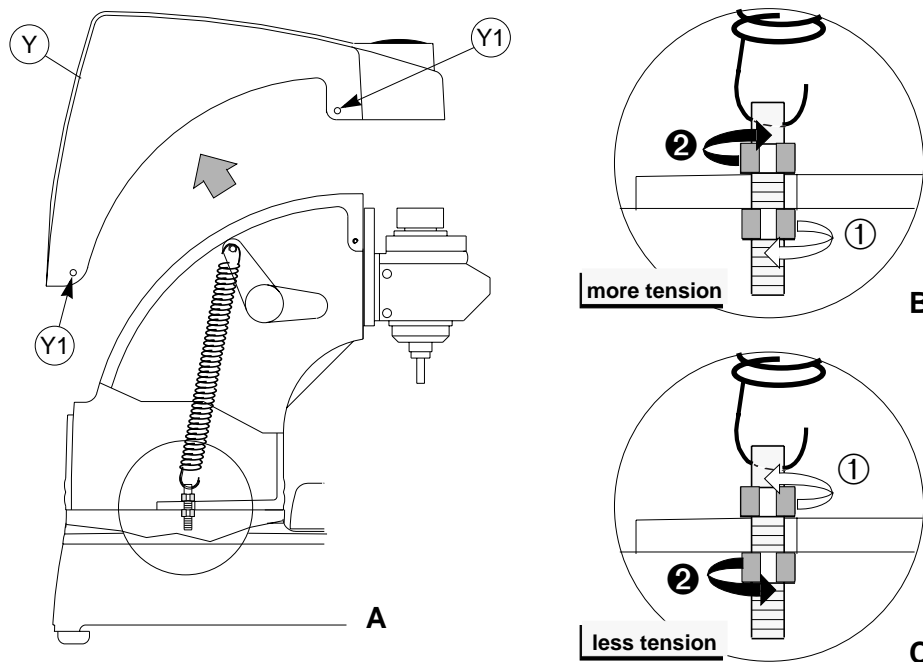

Fig. 26
- 2) loosen the four screws (Y1) and remove the upper casing (Y) (fig. 26-A).
- to increase spring tension: observe the illustration 1 and 2 in fig. 26-B.
- to reduce spring tension: observe the illustration 1 and 2 in fig. 26-C.
- 4) replace the upper casing (Y) and secure with the four screws (Y1).